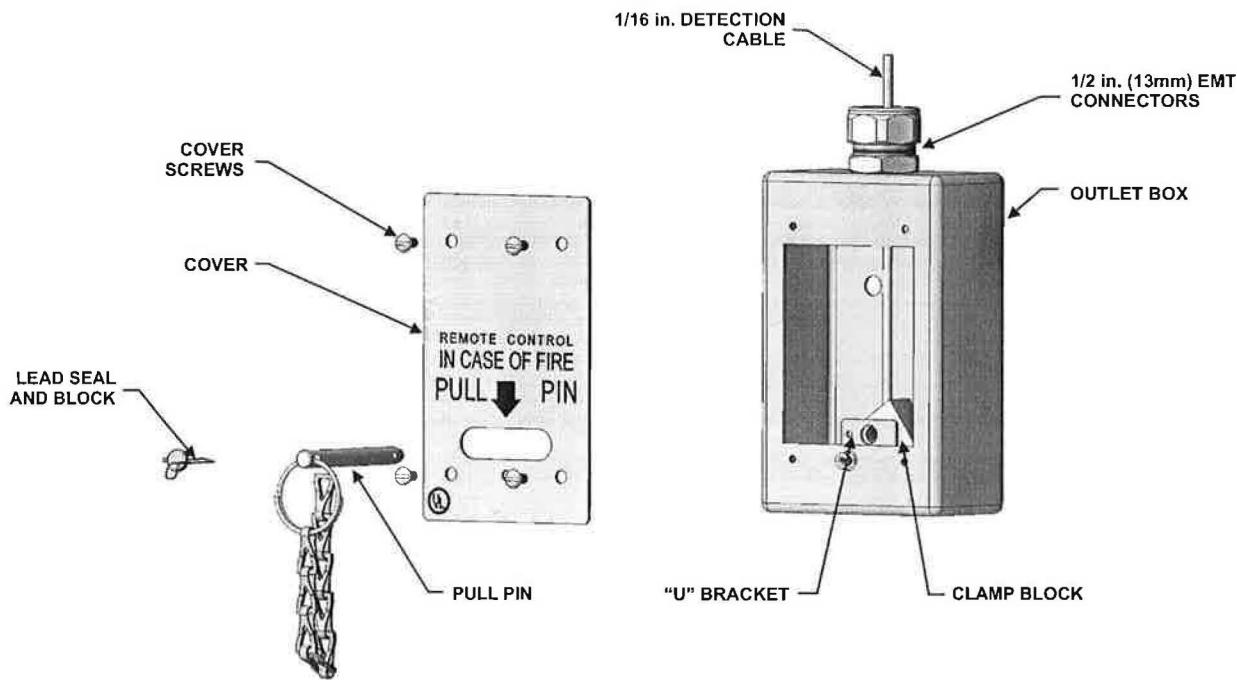

Figure 4-62. End-of-Line Remote Manual Control, P/N 9197463
5. Before replacing the cover plate, a lead seal and wire (or equivalent) must be fastened through the ring of the pull pin and through the front hole of the "U" bracket (Figure 4-62).
3. Run the cable down through the vertical conduit to an end-of-line Surface Mounted Manual Control Box. Insert cable through conduit connector on one side of the roll pin (Figure 4-62).